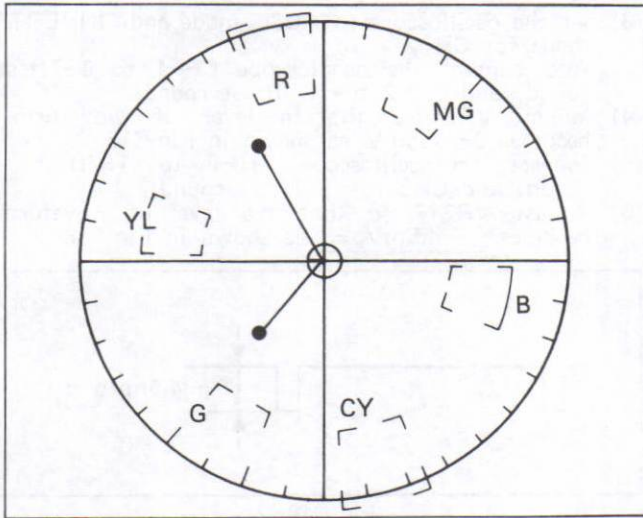

Fig.C19
- (1) Set the White Balance Switch to "INDOOR" side.
- (2) Connect the jumper wire among TP511, TP512 and TP513 on process C.B.A. to cut the R-Y, B-Y feed back loop.
- (3) Aim the camera at the White Chart.
- (4) Supply the video signal to the vectorscope.
- (5) Adjust the White Balance Controls (VR311 and VR312) so that the colour vectors are collected at the centre of screen on the vectorscope as shown in Fig. C19.